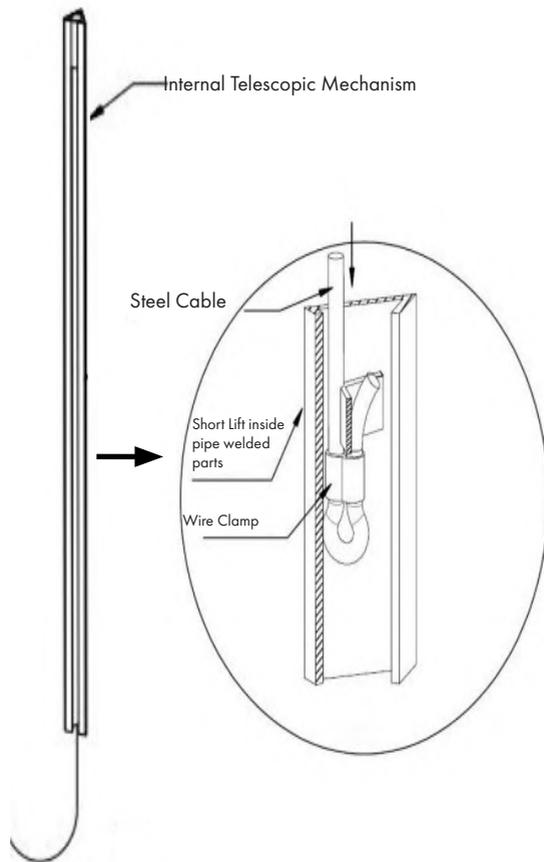

Figure 17
- In the second internal telescopic mechanism, insert the wire in reverse through one opening towards its upper part. Use a wire clamp to secure it as shown in Fig. 17.